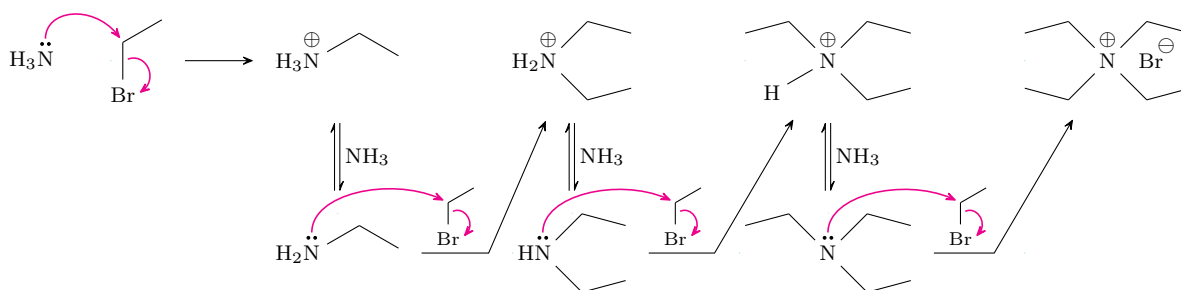

Figure 3.13: Alkylation of amines from ammonia and an alkyl halide.
- If we do this, we run into the same problem as in Figure 3.13.